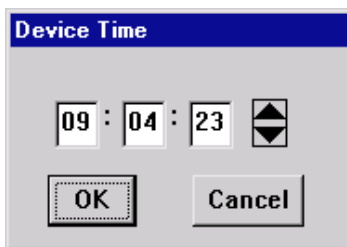

Figure 2-26. The Edit Time Window
2. The following change window, Figure 2-26, opens.